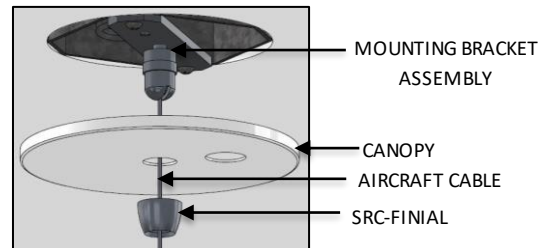

FIG. 14 – CANOPY INSTALLATION
- Feed the AIRCRAFT CABLE from the MOUNTING BRACKET ASSEMBLY through the center hole of the CANOPY and SRC-FINIAL. Loosely secure CANOPY to the ceiling by threading the SRC-FINIAL to the MOUNTING BRACKET ASSEMBLY as shown below in FIG. 14.